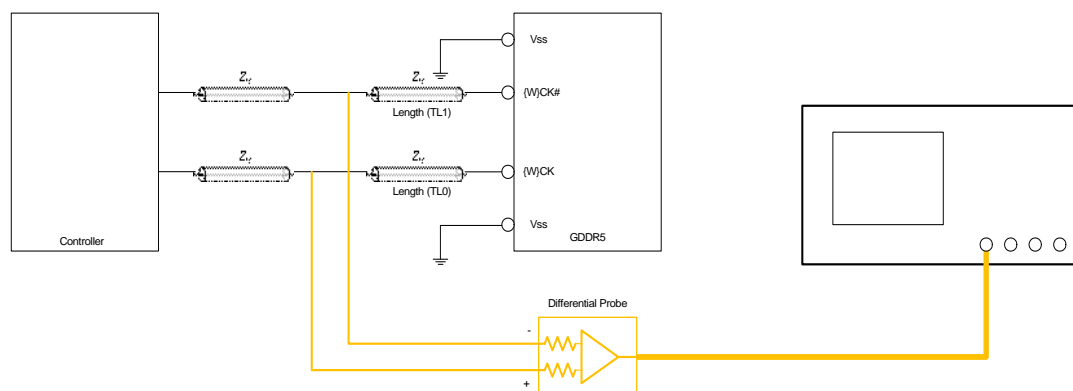

Figure 8 — Alternative for Vid Measurements – differential
1. Probe dual single ended at the {W}CK and {W}CK_c to the oscilloscope input channels. Connect one channel to {W}CK and Vss and another to {W}CK_c and Vss. Vid is measured on a differential signal. Vid can be connected the same and then a math function to measure a differential signal or connected as shown in figure 8. [Note: Specs are defined “at the pin”; however this is difficult when implemented in a design and require probing at vias or probe points at some distance from the pin. An analysis needs to be done to determine best probe distance from the pin. There are variable termination possibilities – ODT, external termination, or no termination. There are also variable loading possibilities and sharing between die. It is recommended that probe points, termination and so forth be noted with the measurement results.]